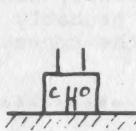

Fig. 2A
1. Put the C110 connector on a flat work surface. See Figure 2A.